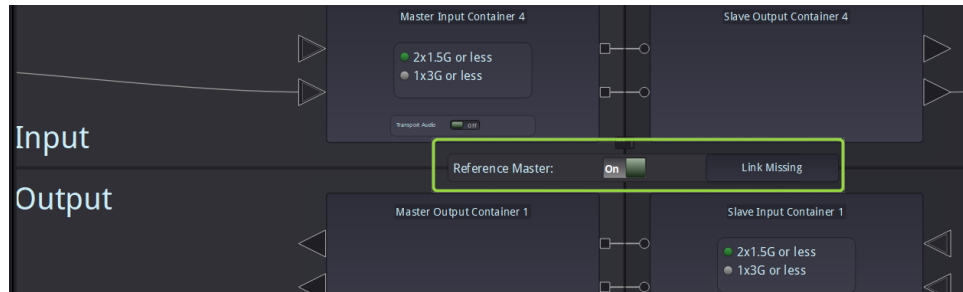

Figure 1
4. Zoom in and set the parameter "Reference Master" to "ON" as shown in Figure 1 below.